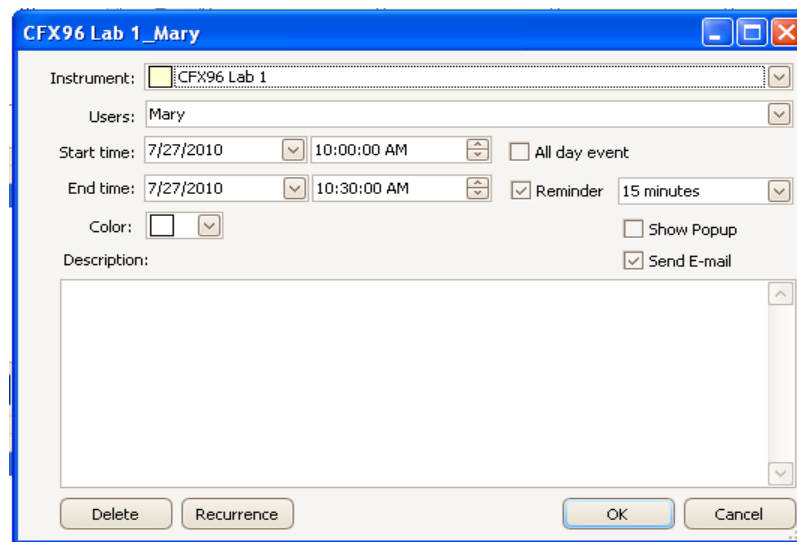

Figure 15. Scheduler New Event window.
2. Select the instrument and user from the drop down list (Figure 15).